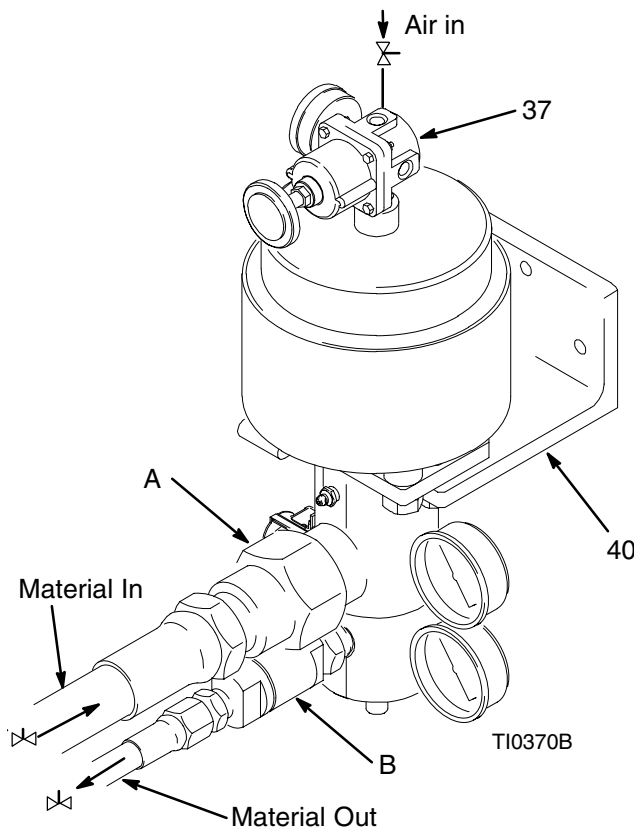

Fig. 1
NOTE: Reference numbers and letters in parentheses in the text refer to the callouts in Fig. 1.
1. Using the attached mounting bracket (40), secure the pressure compensating valve to a rigid support or a wall capable of supporting 75 pounds. See Fig. 1.
2. Connect the air line to the pressure compensating valve's regulator (37). See Fig. 1.
3. Connect the material supply hose to the pressure compensating valve's inlet port (A) and connect the material discharge hose to the pressure compensating valve's outlet port (B). See Fig. 1.